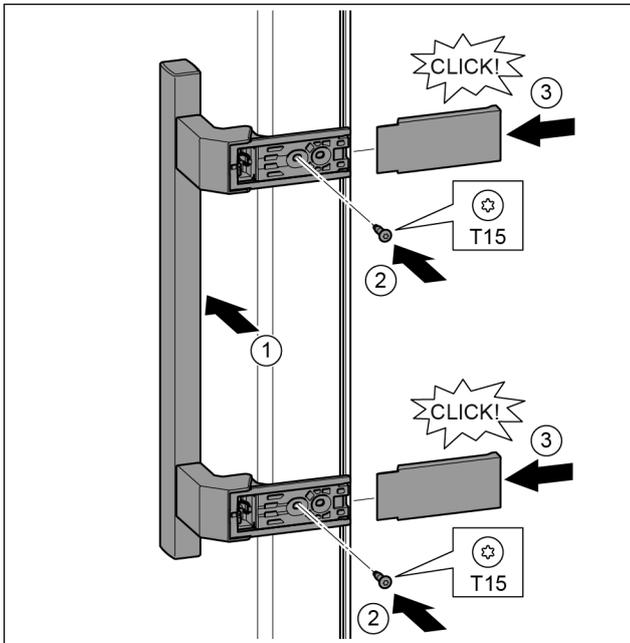

Fig. 34
- ▶ Position the handle on the other side. Fig. 34 (1)
- ▶ Tighten the screws with the T15 screwdriver. Fig. 34 (2)
- ▶ Position the covers on the side and push in. Fig. 34 (3)